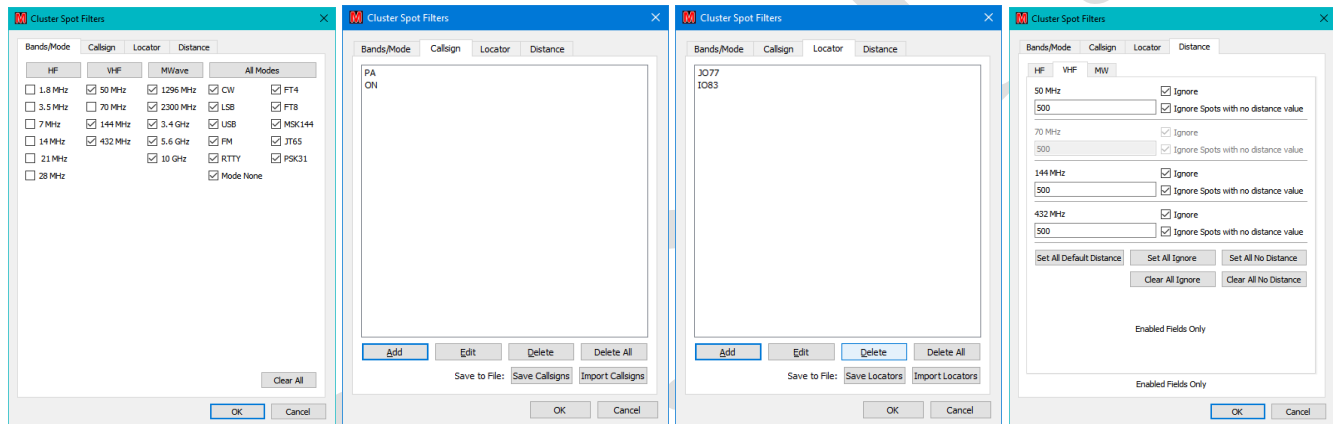

Figure 137 – Setting up filters
The content of the display can be controlled by clicking the “**Filters**” button and adjusting the Band/Mode of interest or the callsigns/locators to be watched and the distance constraints (see Figure 137).
The Distance filters further restrict the spots displayed on the basis of the specified maximum ranges125. Note in Figure 137 (4) that the 70MHz box is disabled because 70MHz is not selected in in Figure 137 (1).